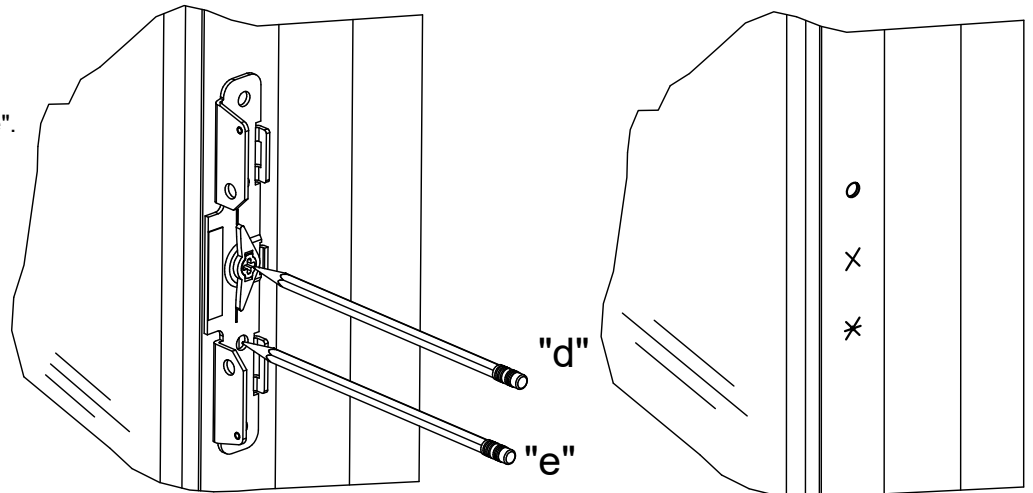

Fig. 13
- Mark the cam center "d". Mark and center punch the other hole "e". See Fig. 13.